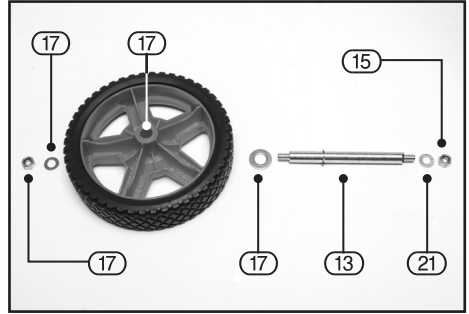

FIG.5
8.3 ASSEMBLE WHEELS – FIGS.5 – 7
- Slide the axle (13) through the axle bracket (13.1).
- Place one small Ø8mm washer (21) and M8 locking nut (15) onto the axle – tighten the nut.
- Before fitting the mounting brackets (12) to a mitre saw, firstly determine how easily the mounting brackets can be seated on the mitre saw frame.
- Depending on the adjustment required, turn the screw clockwise to tighten the clamping tension, or anti-clockwise, which will loosen the clamping tension (Fig.5).